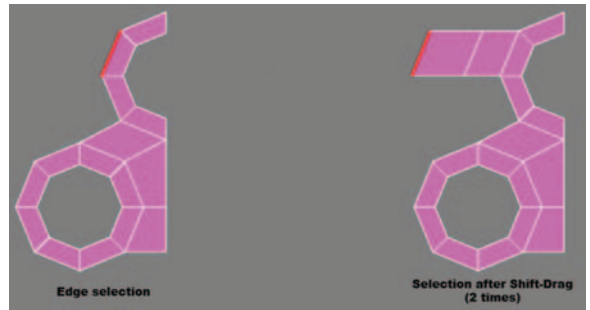

Figure 5.7 Edge selection to be shift-dragged and resulting new polygons.
8. Select the edge seen in the Figure 5.7 and shift-drag it two times to match the number of edges existing below on the mesh. We are left with an even number of edges, which is ideal for creating the new Quad polygons our mesh requires.